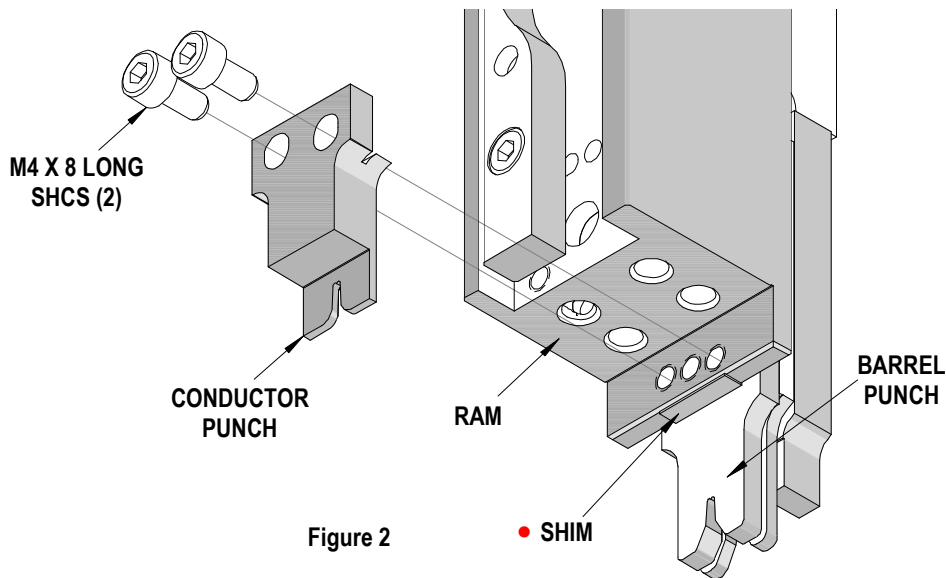

Figure 2
2. To achieve the reference “D” dimension listed in the chart above, a shim is required. These shims are not supplied with the applicator. The shim should be located between the ram and the conductor punch. See Figure 2.